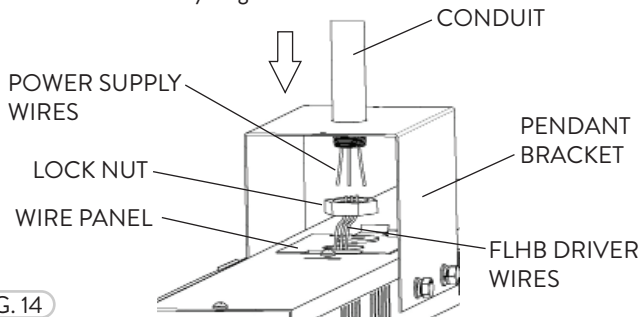
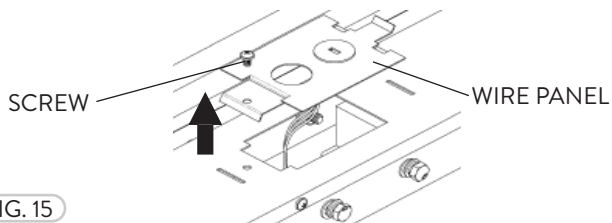

FIG. 14
FIG. 15
- 2 Once the Pendant Bracket is installed onto the Fixture, fasten a 1/2" Conduit to the Bracket from the hole on the top side using a Lock Nut that matches the thread on the 1/2" Conduit. Run the AC Power Supply Cable down the Conduit and join the wires to the FLHB Driver (Fig. 14). The small FLHB Wire Panel can be removed by removing one screw if necessary (Fig. 15).